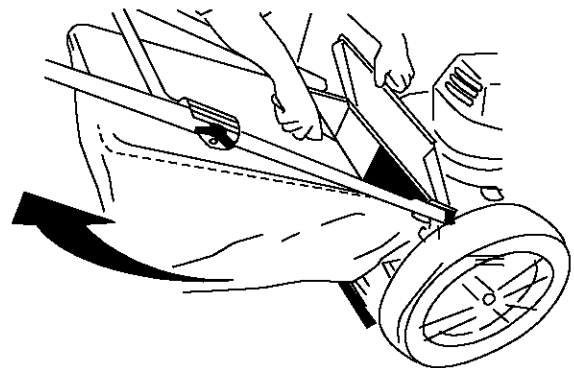

Figure 11
- Lift discharge door and pull grass bag up and away from the mower to dispose of the grass clippings See Figure 11.